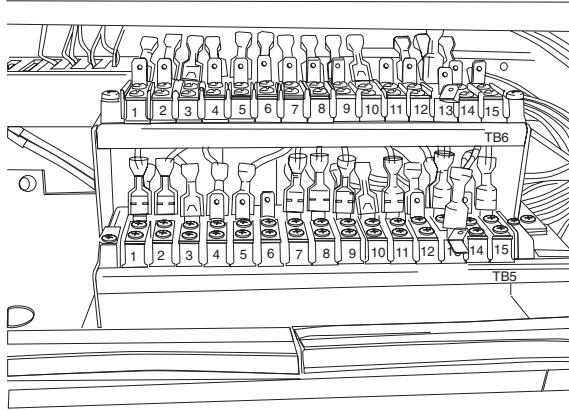

Fig. 3 — TB6 in Fan Box Above TB5
- Locate terminal block TB5 (field connection) in the control panel. For sizes 30RB130-300 (380, 460 and 575-v) and sizes 30RB080-300 (208/230-v), use the bracket and hardware supplied to mount the bracket above TB5 and mount the terminal block (TB6) supplied to the bracket. See Fig. 3. For sizes 30RB060-120 (380, 460 and 575-v)